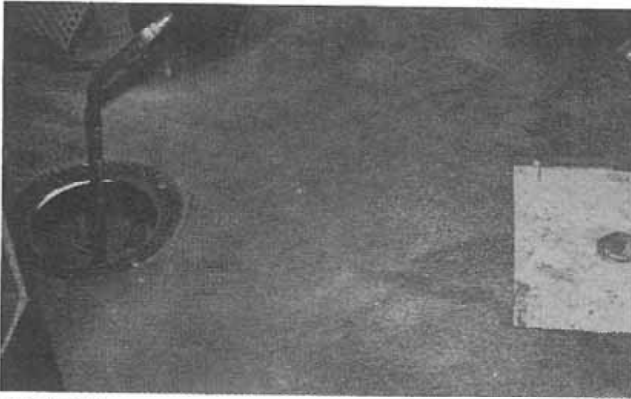

Figure 1:
3. Remove the seat and pedestal, each separately, to avoid interference through the door opening (the use of an overhead hoist is suggested for removal of the seat assembly). Remove the shift lever knob and the boot/ring fixture (Fig. 1).